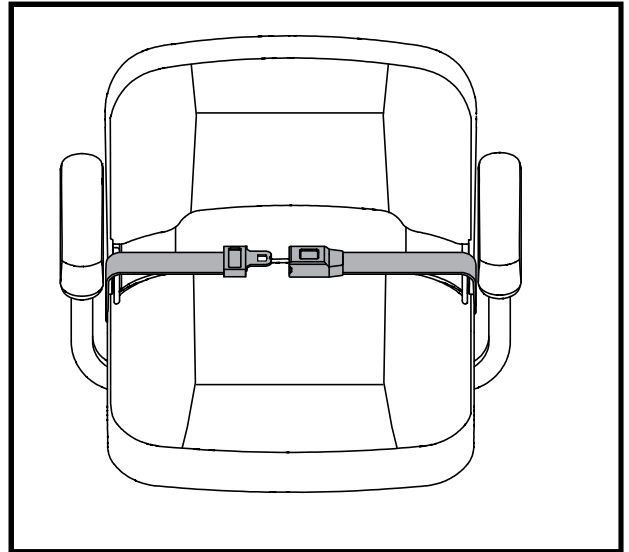

Figure 26. Positioning Belt
1. Insert the metal tab on the right side of the belt into the plastic housing on the opposite strap until you hear a “click.” See figure 26.